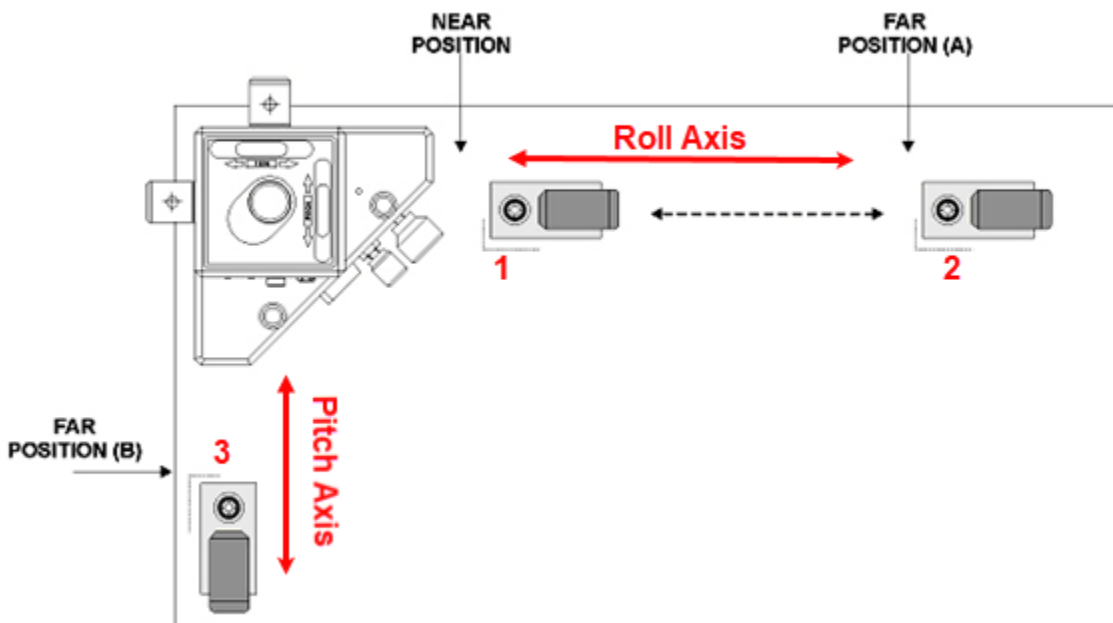

Figure 26 – 3-Point Buck-In
Be sure to use only *Pitch Axis* adjustment knobs that face the target when tilting the laser beam (in the setup displayed in Figure 26, this would be the PITCH adjustment).
- 1. Zero all three targets on the near position (1)– see Figure 26.**